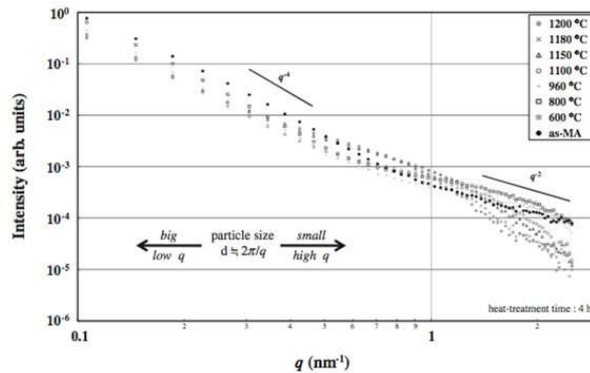

Fig. 3 SAXS profiles of as-MA powder and heat-treatment powders (600, 800, 960, 1100, 1150, 1180 and 1200°C for 4 h).
**Fig. 3.** The  $d$ -spacing plot of Alloy 617 at  $t=10,000$  h showing {422} reflections from the  $M_{23}C_6$  and  $M_6C$  phases. Major reflections from the face-centered cubic (FCC) matrix have also been indexed.